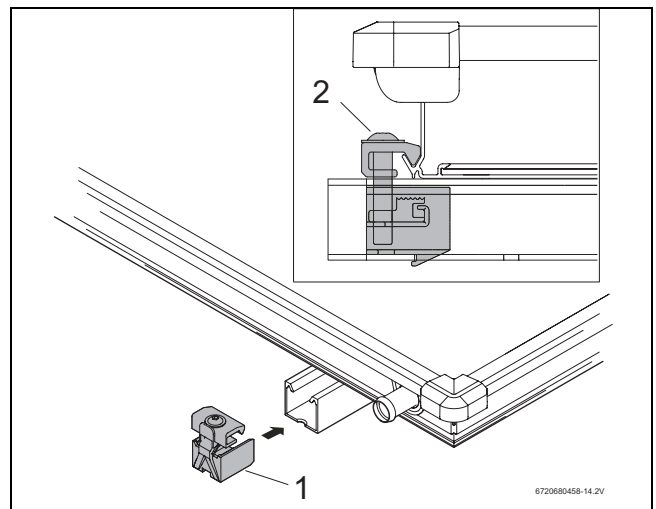

Fig. 48 Single sided collector tensioner on the left
- Push the single sided collector tensioner (Fig. 48, [1]) into the ends of the profile rail.
- Push collector tensioner up against the collector frame and secure in place with size 5 spanner. The hold-down retainer (Fig. 48, [2]) on the collector tensioner now grips the lower collector edge.